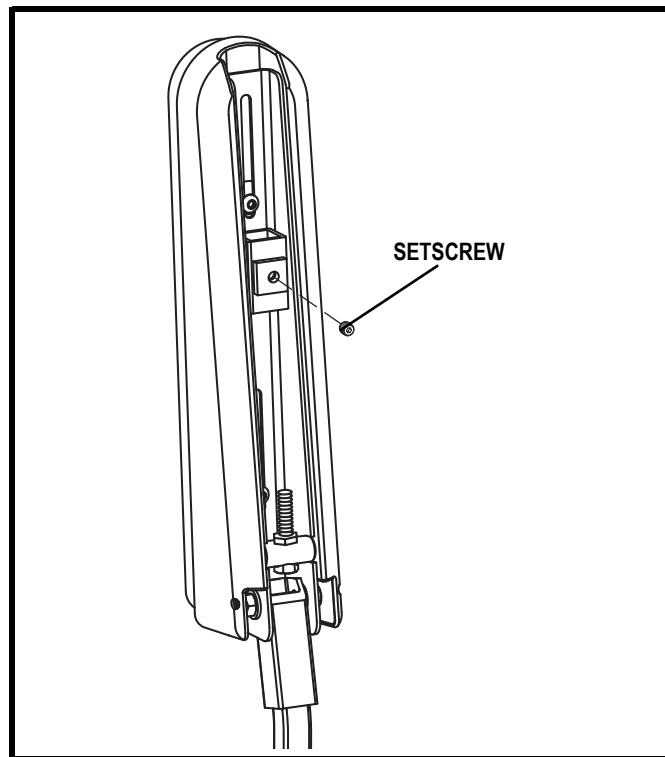

Figure 19. Underside of Armrest (Contour Seat)
2. Loosen the setscrew on the controller bracket. See figure 19.
NOTE: For contour seats, loosen the setscrew on the underside of both armrests, transfer the controller, and tighten the setscrews. See figure 19.